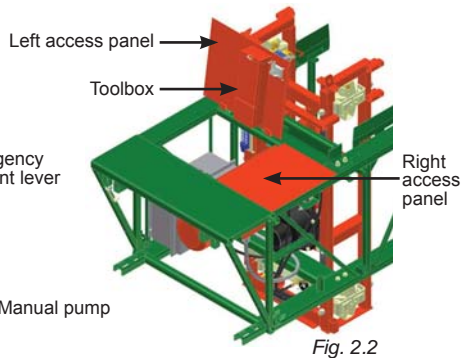

Fig. 2.2
- 1- Open the left access panel on the main frame (fig. 2.2) and turn the main disconnect switch to the OFF position.